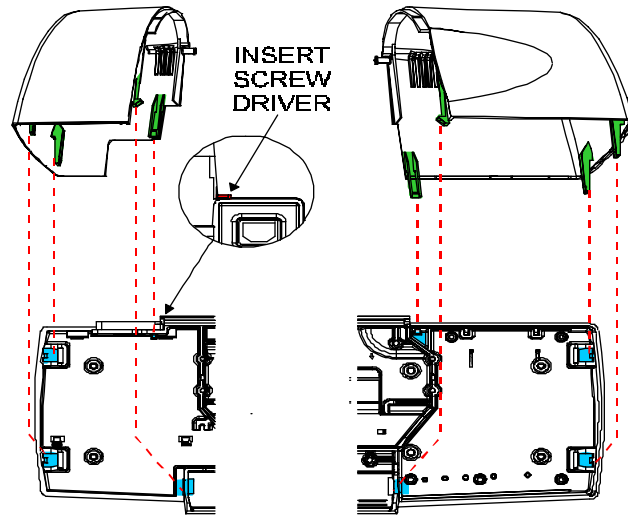

Figure 5-1. Cover Removal/Installation.
1. Remove Cover Retaining Clips (2) from the Middle (Lid) Cover. Insert a Needle Nose Pliers into the square openings near the back of the Lid and remove the Retaining Clip.
4. Remove the Right Cover by using a flat head screwdriver to unhook the locking clasps located in Figure 5-1. All clasps can be accessed from under the Base. Carefully lift off the Cover.
5. Remove the Left Cover by using a flat head screwdriver to unhook the locking clasps located in Figure 5-1. All clasps but one can be accessed from under the Base. The clasp located near the AC input plug can be reached with a #1 flathead screwdriver inserted into the slot between the Base and the Cover above and to the left of the AC plug on the back of the printer. See insert on Figure 5-1. Carefully lift off the Cover.